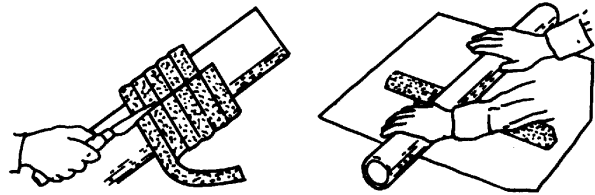

Figure F-5A.
Step 1: Determine how much bulk packing will be required to fill the seal cavity and wrap it around a rod the same diameter as the shaft. With the packing wrapped around the rod, cut through each turn as shown in Figure F-5A.